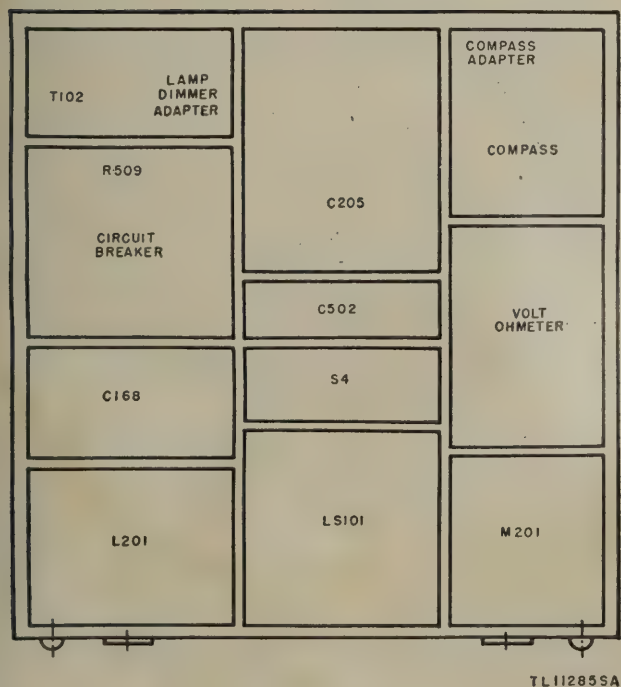

Figure 94. Drawer No. 1, spare parts chest.
b. To repack this chest, refer to the contents list and to figures 94, 95, and 96,